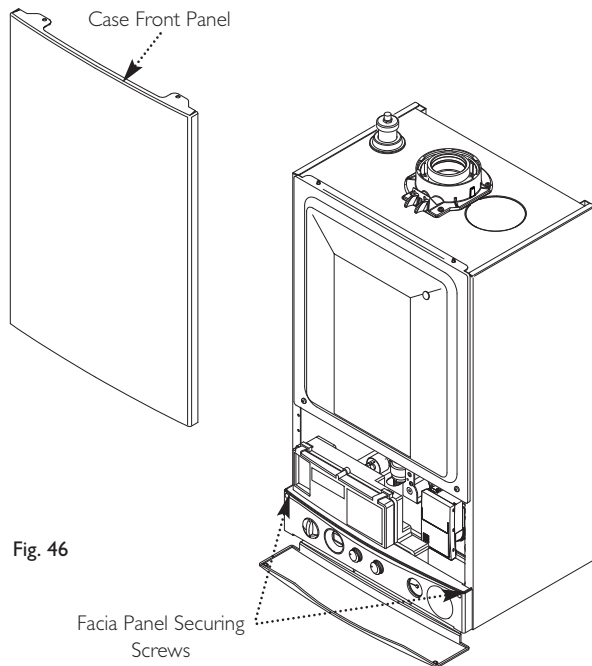

Fig. 46
3. Slacken the screws securing the fascia panel. Lift the outercase panel so that its securing tabs are clear of the fascia. Remove the panel, allowing the fascia to hinge down (Fig. 46).